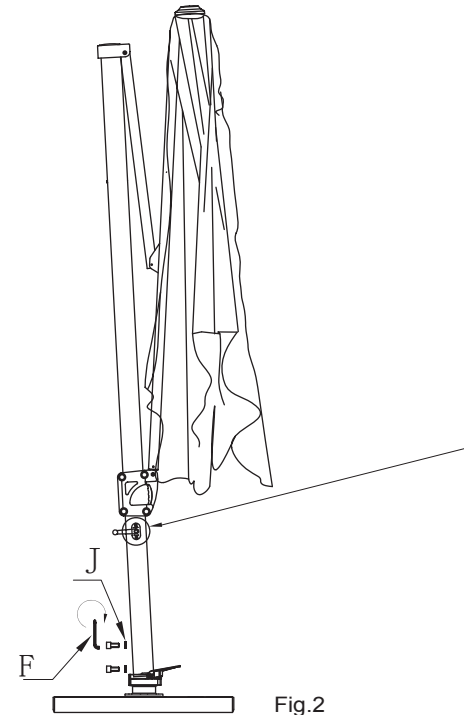

Fig.2
2. Position the completed umbrella assembly onto the top of the Rotate Bearing, see Fig.2